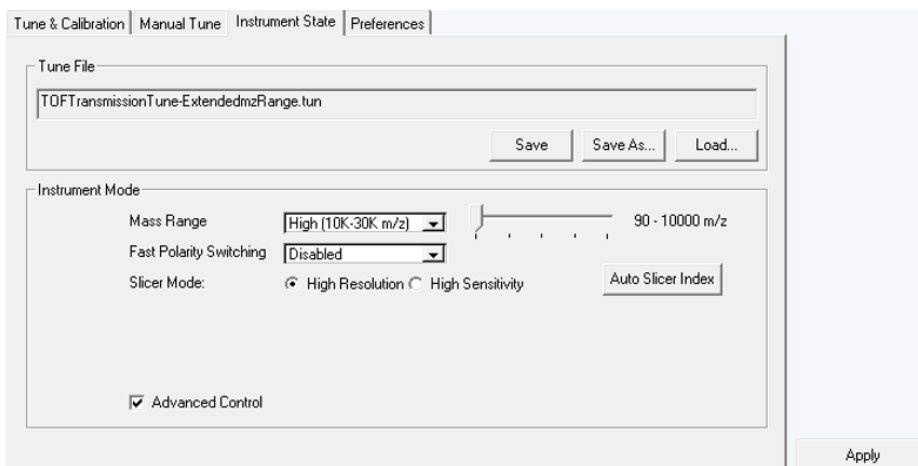

Figure 26. Slider for changing mass in the Instrument State tab
- Set the slider **Mass Range** in the **Instrument State** tab (**Figure 26**) and click **Apply**.